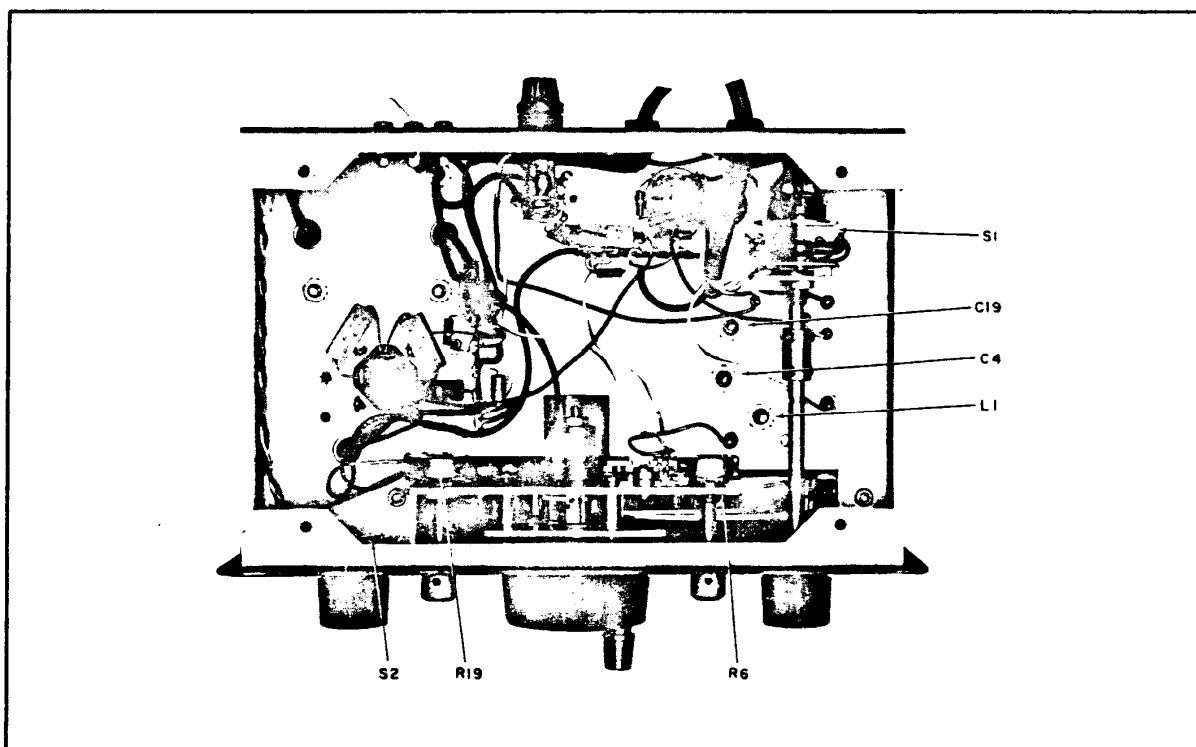

Figure 3. Model HA-20 Bottom View.
1. Remove and operate the chassis assembly outside of the cabinet (see chassis removal) to gain access to the adjustment screw of trimmer C4 (figure 3).